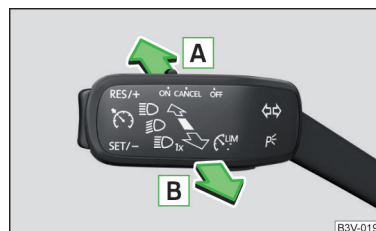

Fig. 60
▶ Place the lever in position **A** (spring-tensioned position) » Fig. 60.
▶ If the headlight is switched on automatically, move the lever into position **B** (spring-tensioned position) » Fig. 60.